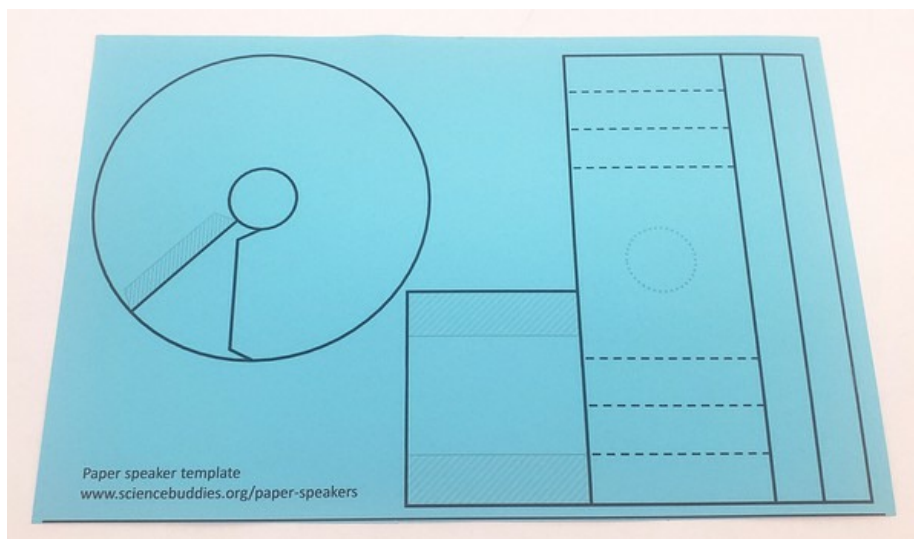

Figure 2. Paper speaker template.
- 1) Print the template on cardstock (Figure 2). Your speaker will work with regular printer paper, but it will not be as loud.